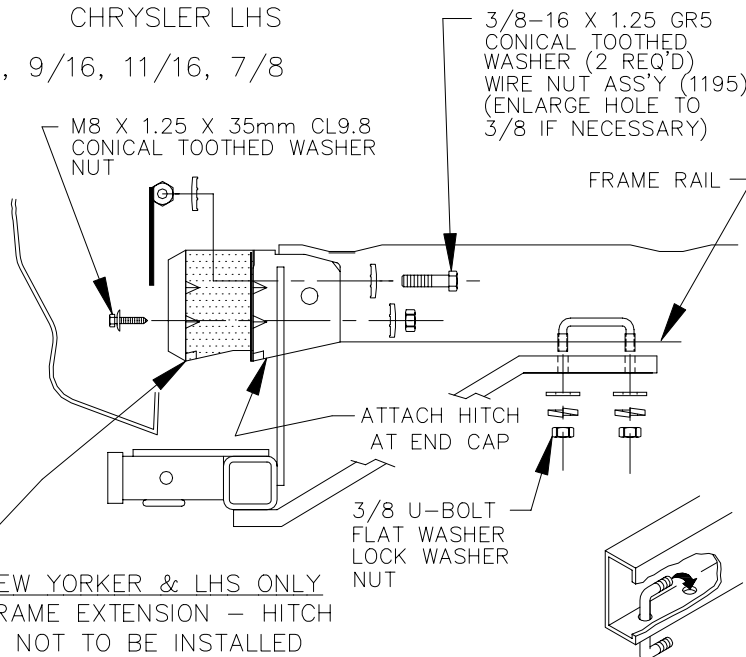

FIGURE 2. PASSENGER'S SIDE
- REMOVE THE HITCH AND DRILL TWO 1/2" DIAMETER HOLES THRU THE PASSENGER SIDE FRAME RAIL. INSTALL THE 3/8 U-BOLT IN THE PREVIOUSLY DRILLED HOLES, SEE FIG 2.